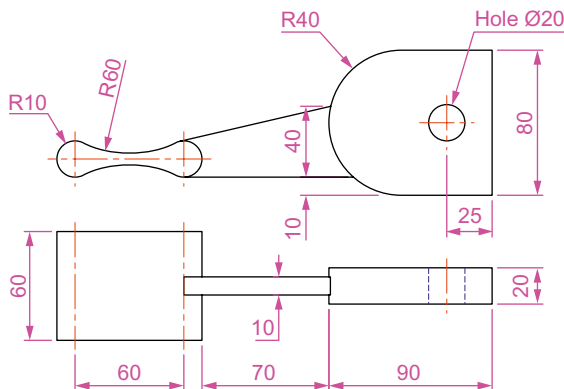

Fig. 18.17 Third example – 3D models – details of shapes and sizes
- 1. Front.** Construct the three plines needed for the extrusions of each part of the model (details Fig. 18.17). Extrude to the given heights. Subtract the hole from the 20 high extrusion.